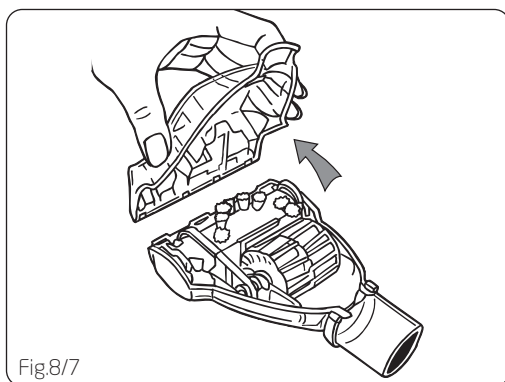

Fig.8/7
1. Turn the TurboTool over and slide off the locking ring (Fig.8/6).